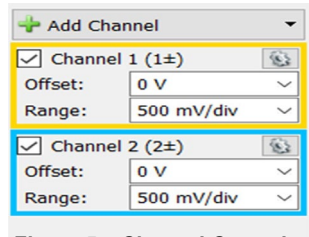
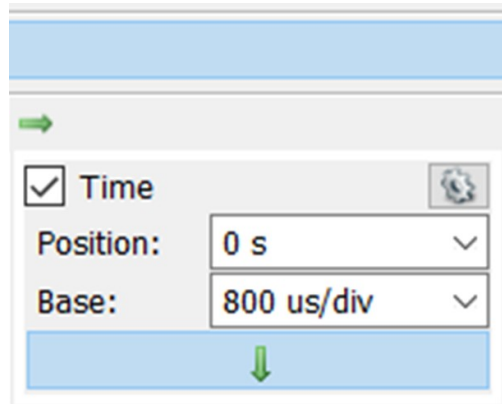
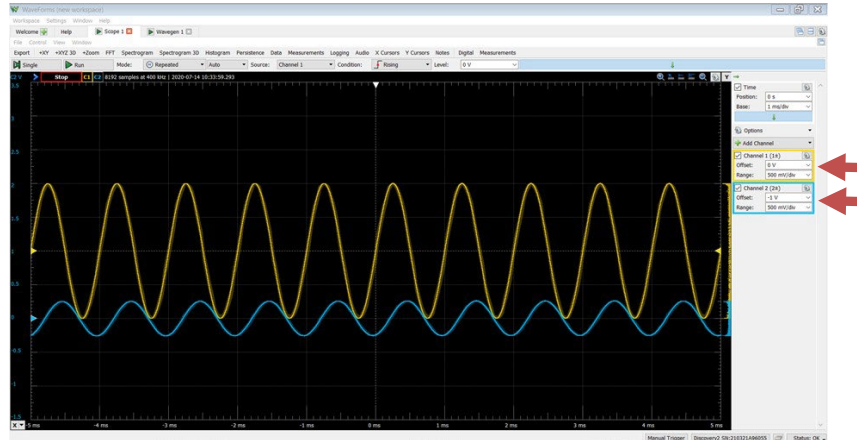

Figure 5 – Channel Controls
Figure 6 – Time (X Axis) Controls
Figure 10 – Display Showing Two Channels
Let us begin by first getting acquainted with the most important controls on the oscilloscope. On the right hand side of the oscilloscope are the two main controls for each input Channel, shown in Figure 5. These drop downs allow you to set the "Offset" and the "Range". The Offset moves the waveforms up and down along the Y Axis. This is useful for when we need to separate the waveforms on screen. The Range adjusts the scaling of the Y Axis, and is labeled V/div, volts per division. You will find that as you increase the V/div value, the "size" of the wave will shrink. The actual value of the wave is not changing, but you are increasing the scale of the Y Axis, so the graph will adjust accordingly. If you lower the V/div value, the wave will appear to grow. Again, the value of the actual wave is not changing, you are now decreasing the scale and the graph adjust accordingly. The Range should be set at a value where you can see both peaks of each wave.
- The oscilloscope only has two separate input channels, allowing two different signals to be displayed on the screen simultaneously (**Figure 10** shows an example with two signals).
- The Offset values allow each signal to be shifted up and down independently of one another. This can be done to separate overlapping signals and to position the signals to make it easier to estimate their amplitudes. In **Figure 10**, the blue (channel-2) has been shifted slightly lower than channel-1.
Answer the following questions given the display in **Figure 10** (11 divisions on the x-axis and 10 divisions on the y-axis) and the sec/div and Volts/div controls in **Figure 5** and **Figure 6**.